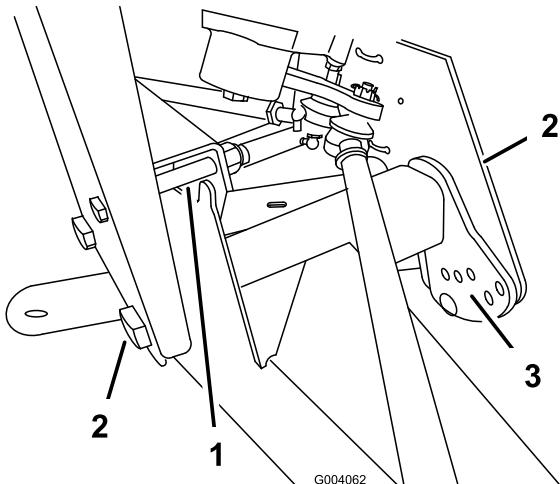

Figure 26
- 2. Remove the travel limiting bolt (Figure 26).
- 3. Loosen the centering bolts in the front A-arm (Figure 26).
- 4. Remove the ride height adjustment bolt (Figure 26).
5. Rotate the front A-arm to the desired position (refer to the note below) and replace the ride height adjustment bolt (Figure 26).
7. Replace the travel limiting bolt (Figure 26).